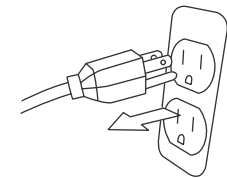

Fig.12
- 1 Remove all the loads out of the output (see Fig.12).